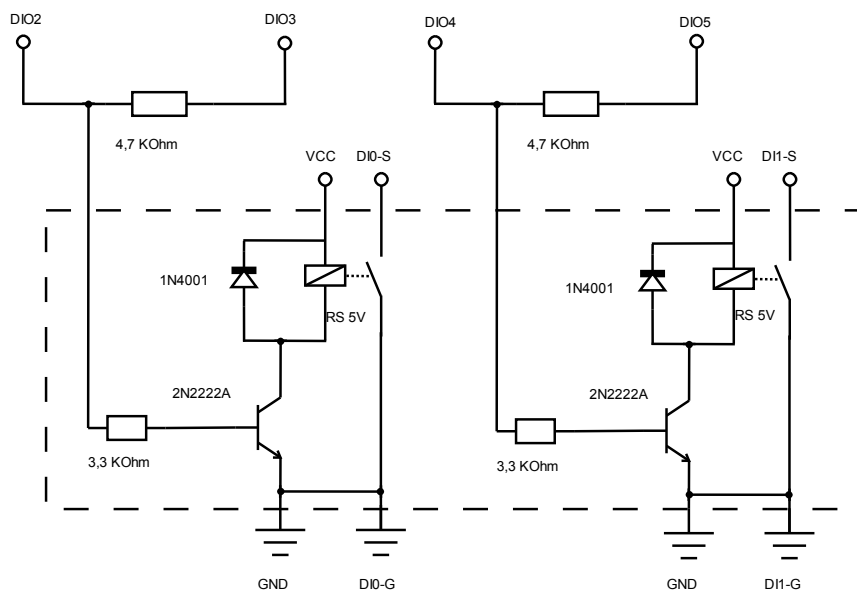

Figure 37: Special Board for GPIO Tests
- special board for GPIO tests, that connects optically isolated inputs to bidirectional channels (see Figure 37)